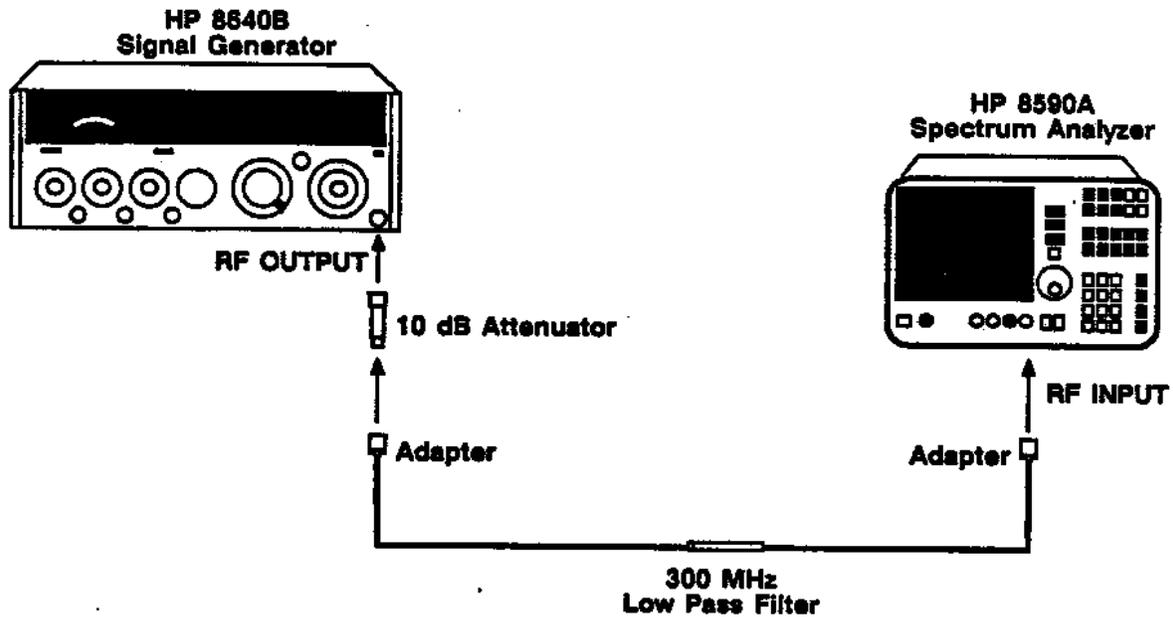

Figure 1-3. Spurious Response—Second Harmonic Distortion Test Setup
2. Connect the equipment as shown in Figure 1-3. If your analyzer has Option 001 (75-ohm RF input), connect the 75-ohm side of the minimum loss adapter to the 75-ohm cable, connect the other end of the 75-ohm cable to the RF input of analyzer, and connect the 50-ohm cable from the low-pass filter to the 50-ohm side of the minimum loss adapter.